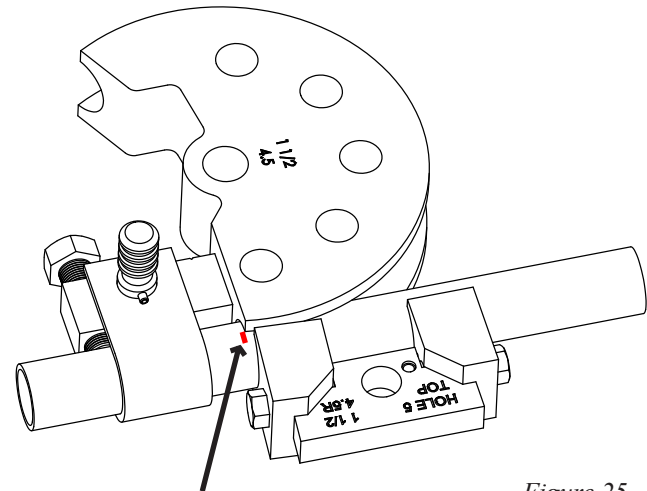

Figure 25
- Using a Black Magic Marker mark a line on the tubing precisely at the edge of the die. See figure 25.